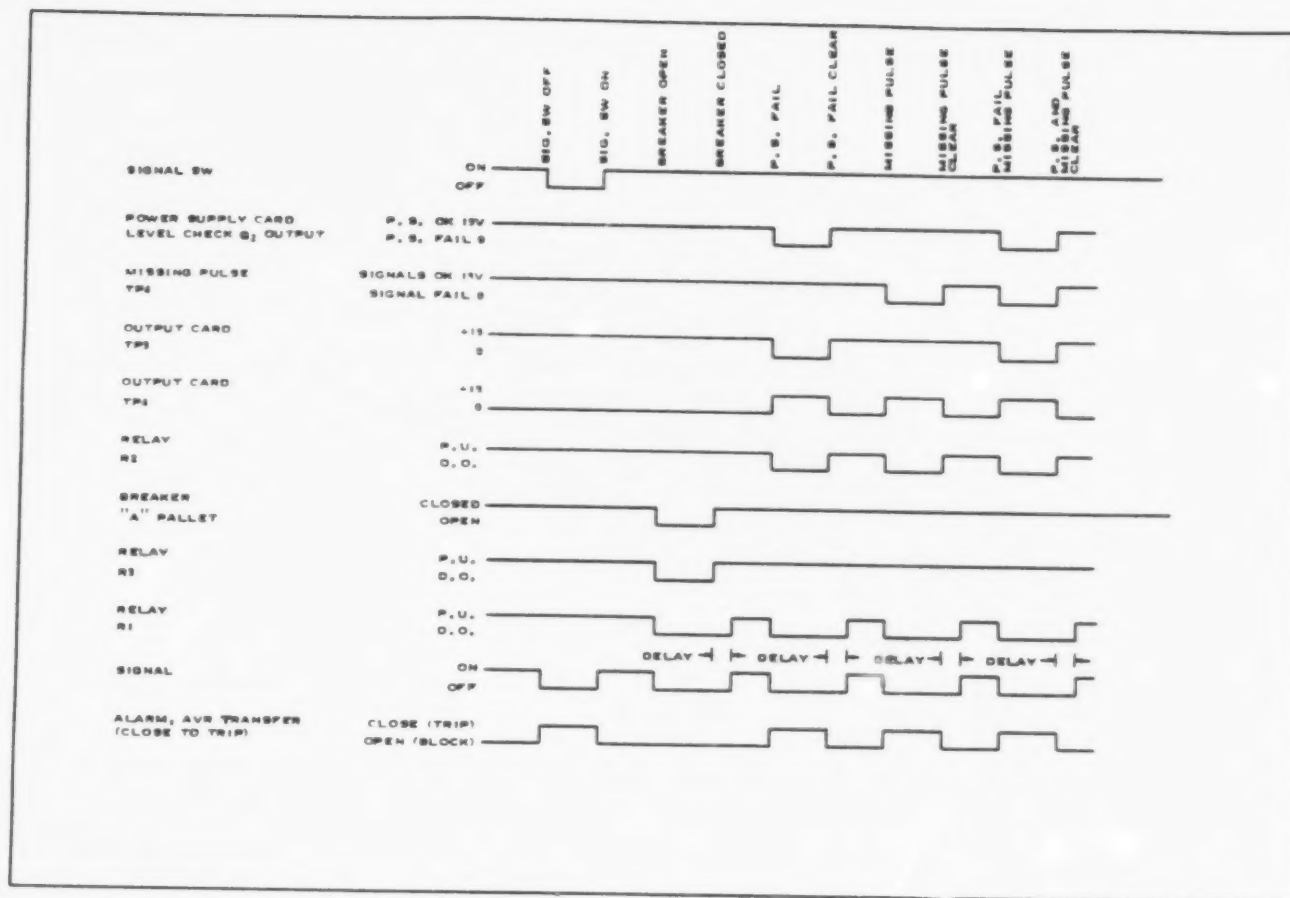

FIGURE 4-20
14. Switching logic can be checked with the aid of Figure 4-20. It should be noted that one of the circuits on the output card, which includes the breaker pallet status detection, is isolated from the remainder of the stabilizer circuitry.
5. Refer to Figure 4-20. Turn off signal switch. Check that the stabilizing signal disappears and the alarm/transfer contact closes. Turn signal switch on.